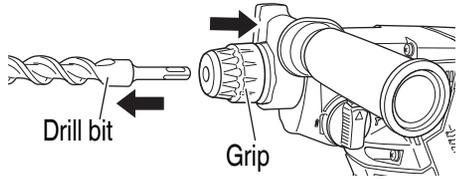

Fig. 8
- (3) Check the latching by pulling on the drill bit.
- (4) To remove the drill bit, fully pull the grip in the direction of the arrow and pull out the drill bit. (Fig. 8)